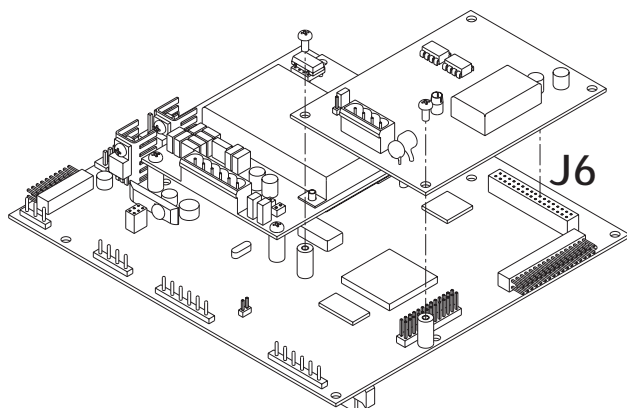

Figure 1. Installing Option Card Onto CPU Board
3. Carefully align the large option card connector with connector J5 or J6 on the CPU board (see Figure 1). Press down to seat the option card in the CPU board connector.